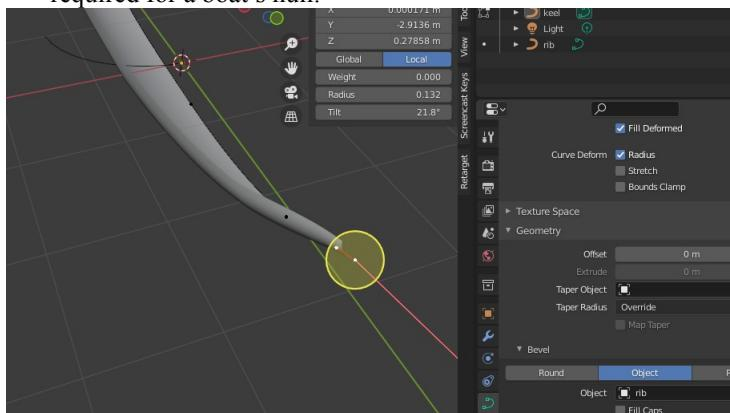

Figure 3-8 Using Tilt and Radius to form a boat shape
3. Move the other point so it is above and left of the origin then rotate and scale the points so the line forms a smooth curve. You can see the rib curve at the top left of Figure 3-8.
Figure 3-8 shows my attempt. You will probably find that this method, though good for some shapes, doesn’t provide the flexibility required for a boat’s hull.